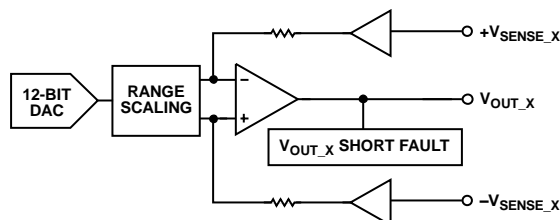

Figure 71. Voltage Output
- Buffered and scaled to output a software selectable unipolar or bipolar voltage range (see Figure 71)